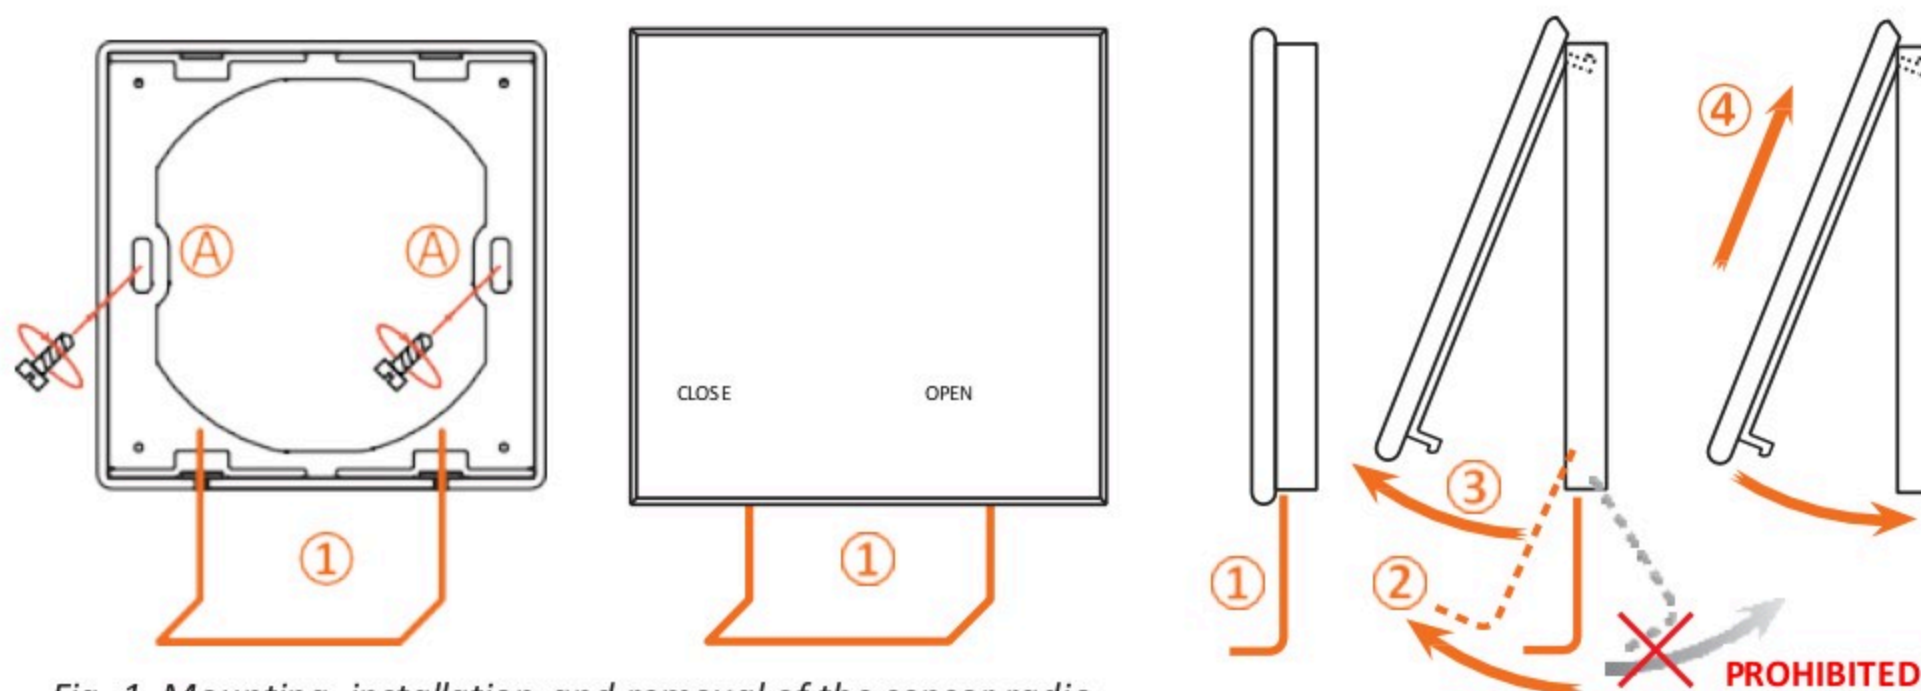

Fig. 1. Mounting, installation and removal of the sensor radio remote control
- Fix a special plastic frame to the wall using two self-tapping screws in the holes (A) Fig. 1 or glue it to a flat surface using double-sided tape (included).